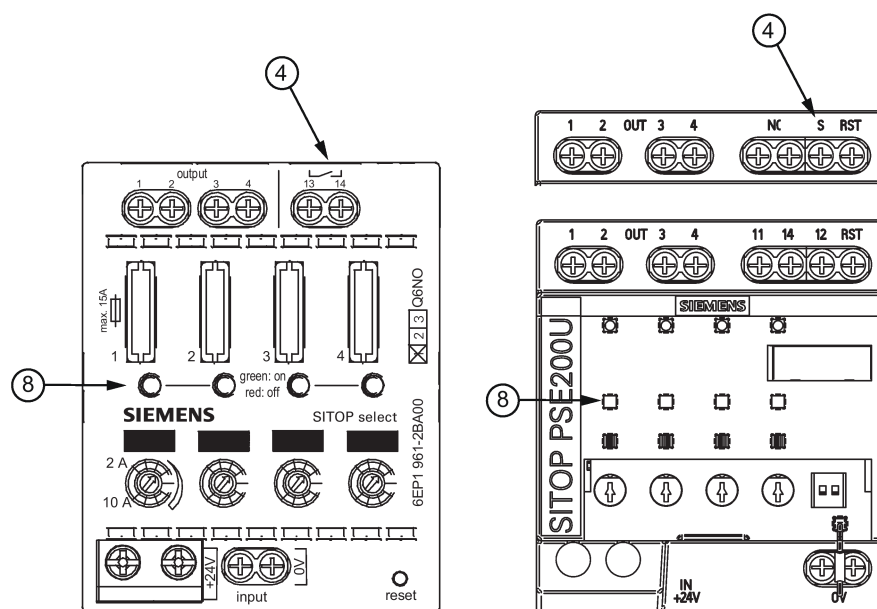

Figure 2-4 Operating displays and signaling (SITOP select and SITOP PSE200U)
The operating status of the device can be processed using the group signal contact or status output ④ (function and contact rating, see Figure 2-4 Operating displays and signaling (SITOP select and SITOP PSE200U) (Page 15)).